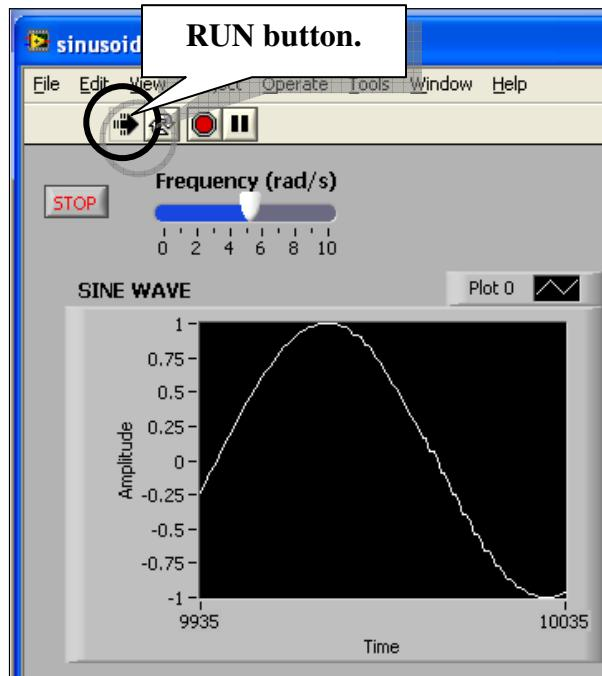

Figure 20. Running the VI project.
[Click] the “Run” button to run the VI (see Figure 20). Move the “Frequency” slider and observe what happens to the plot. You can [Click] the **[STOP]** button to terminate the run.
- ii) The horizontal axis are in terms of “While loop” iterations. This means in our example, with the “Wait...” time of 10 milliseconds, the value of 9935 in Figure 20 means 99.35 seconds of elapsed time. Moreover, the range of samples shown in the chart is (10035-9935)=100 or 1 second.